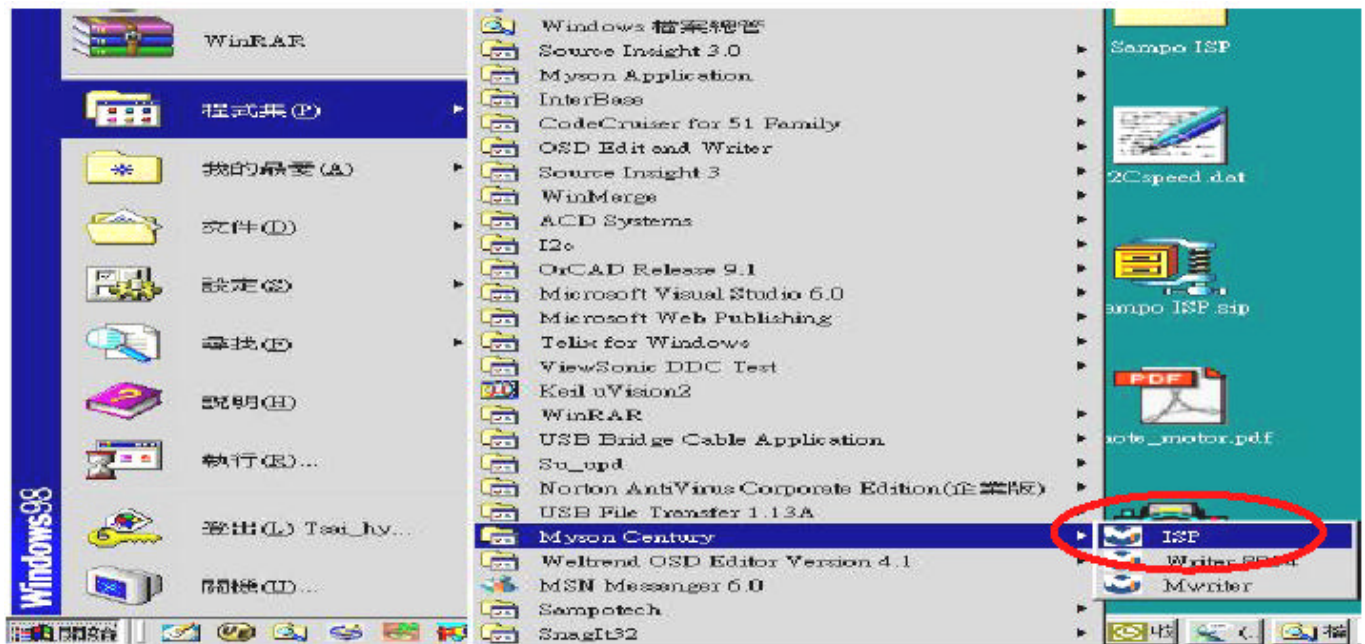

Fig 3.1
3.1 After installation, we could find the shortcut in the setting path or the program bar (default setting), see Fig 3.1.